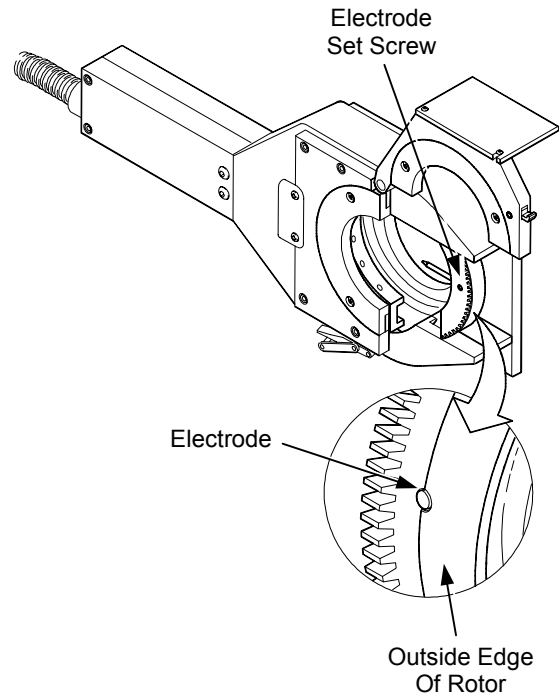

Figure 6 Electrode Installation
1. With the weld head in the open position, press JOG on the operator panel until the tungsten electrode is in the position shown in Figure 6.